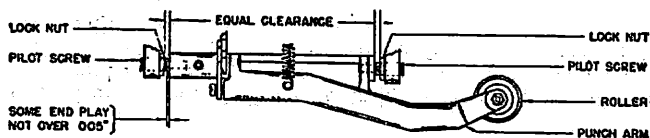

Fig. 32
4.53 Punch arm shall be centrally located in its bracket and have end play not to exceed .005". See Fig. 32.